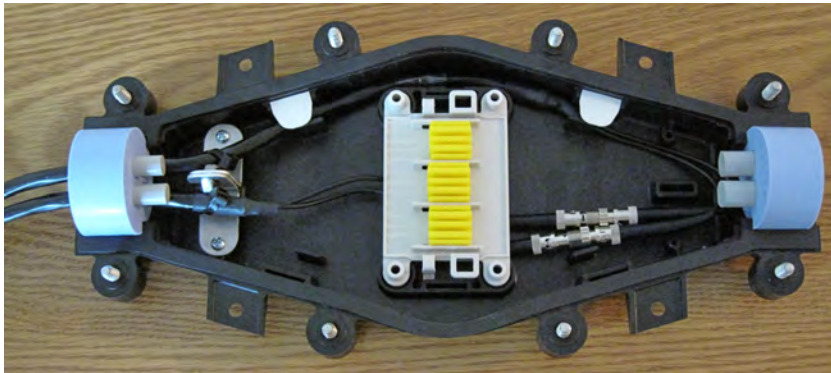

Figure 9 Install Retention Ears and Splice Tray
Step 9. Install fiber retention ears and splice tray to secure cable to enclosure (see *Figure 9*).